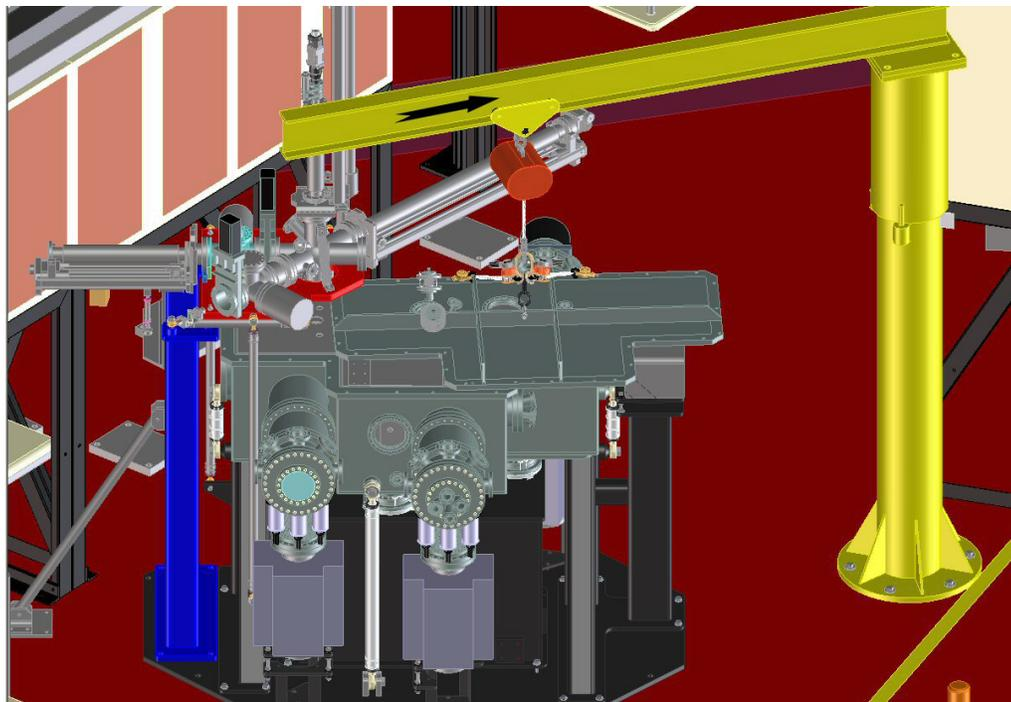
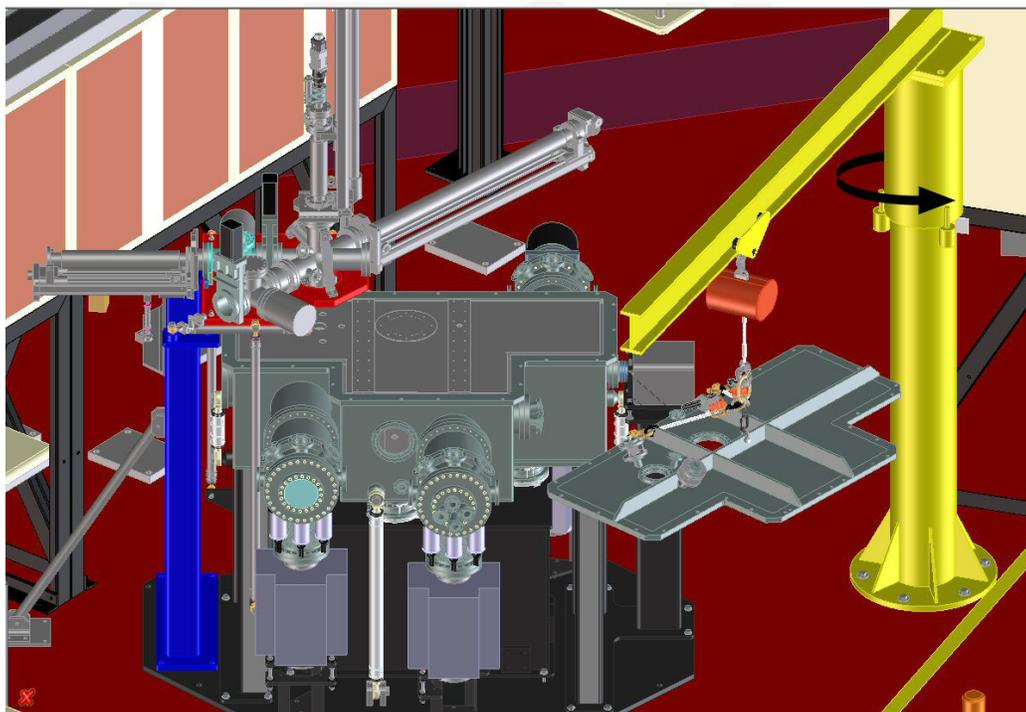

Figure 12. Lid moved down the crane beam and out from under the sample transfer system.
Figure 13. Lid swung out and away from the vacuum vessel.
13. Raise the lid until it is above the sample transfer tube and the four corner guidance bolts are free of the holes in the vessel flange. **Remove the four remaining “alignment” bolts.** Level the lid using the mini hoists. Once the lid has been leveled it can be moved off of the vacuum vessel by pulling the hoist and trolley straight down the crane beam until the lid clears the sample transfer system (see Figure 12 below). After it is clear of the sample transfer system the lid can be swung out and away from the vacuum vessel (see Figure 13 below).